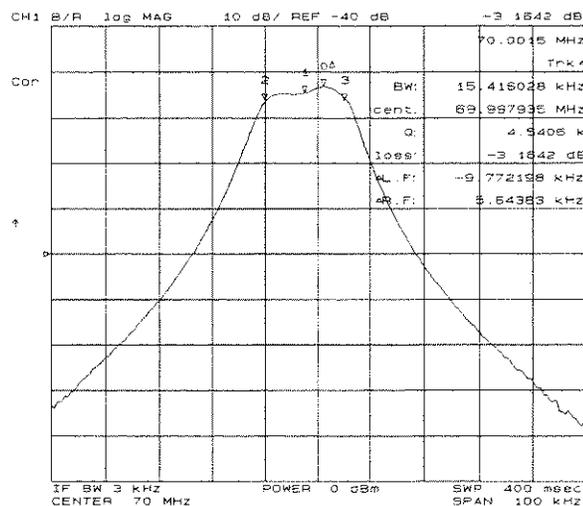

Figure 5-1.
The sub-markers appear at a specified level down on both sides of the reference marker and the center of the two sub-markers, as shown in Figure 5-1. The bandwidth (BW), center frequency (cent), Q factor (Q), insertion loss (loss), and left and right hand bandwidth from the center frequency ($\Delta L.F$ and $\Delta R.F$) are displayed on the upper right of the grid.